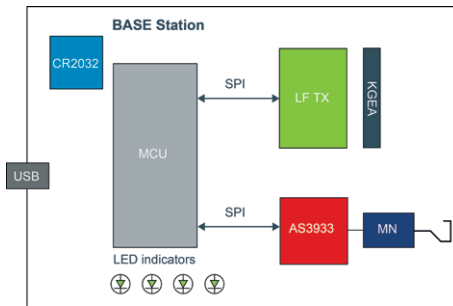

Fig. 1: ams active RFID reference design – base station block diagram.
The base station consists of an LF wake-up transmitter, a 2.4GHz RF transceiver (the AS3940) and a microcontroller - see figure 1. The base station is powered via its USB interface. As stated above, the effective range of the system is limited by the receive range of the tag's LF receiver. In order to maximize the base station's LF transmit range, a power management IC (PMIC) is used, supporting a high voltage input to the LF antenna. A low-power microcontroller (MCU) controls the operation of the LF and UHF protocols. The LF transmitter is based on discrete transistor circuitry, a matching network (MN) and the PCB antenna. LEDs indicate the status of the base station.